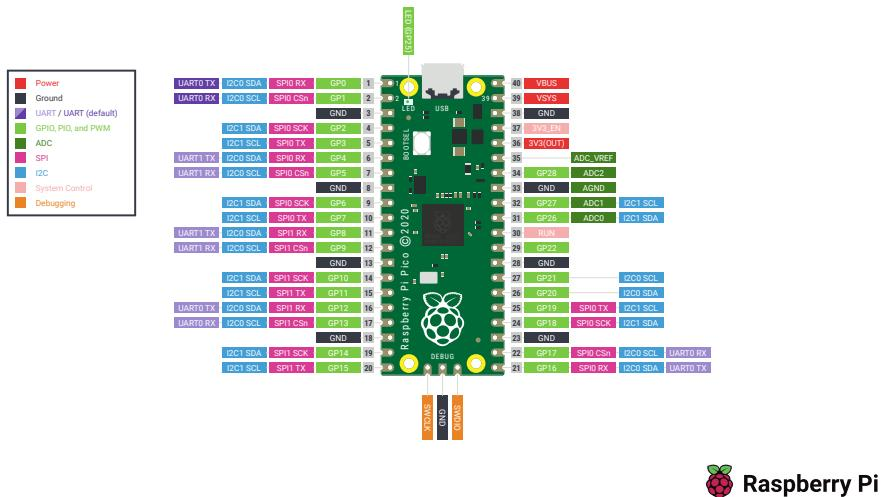

Fig. 10.1: Pin diagram
**Solution:** Connect the LED to pico as per Table 10.1 and Fig. 10.1.